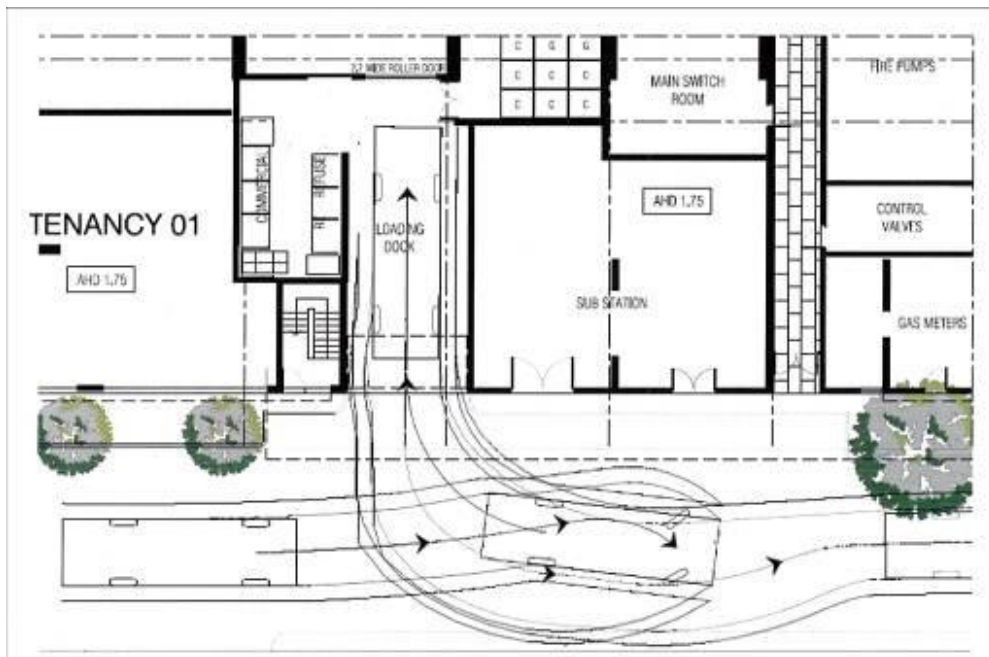

Figure 4 Example scaled waste management plan drawing showing sweep paths of waste trucks.
- sweep path diagrams illustrating sufficient access to collection points for all vehicles required to collect from the development (figure 4).